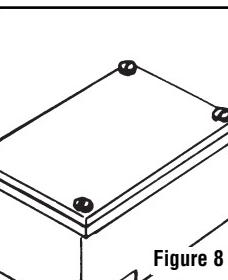

Figure 8
- B. Remove cover by removing four hexhead screwbolts (see Figures 8 and 9).